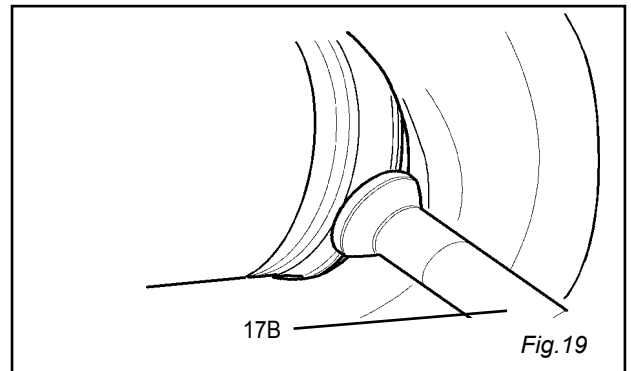

Fig. 19
- 8) Go ahead pushing the tire, it comes completely off the rim (fig.19)